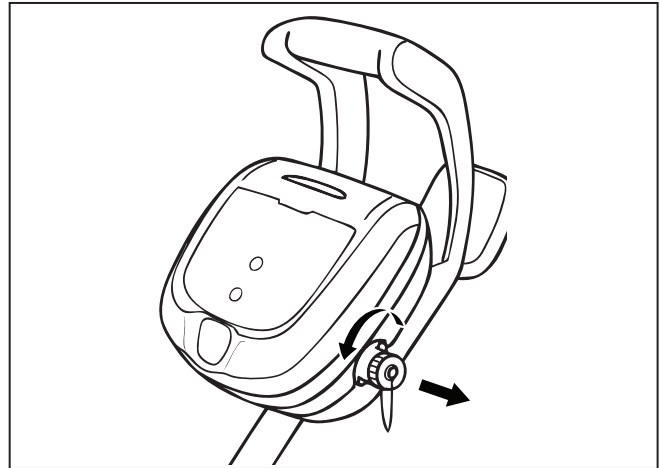

Figure 10. Remove Protective Cap
1. Unscrew the protective cap for the power cable from the side of the control unit by turning counter-clockwise (Figure 10).